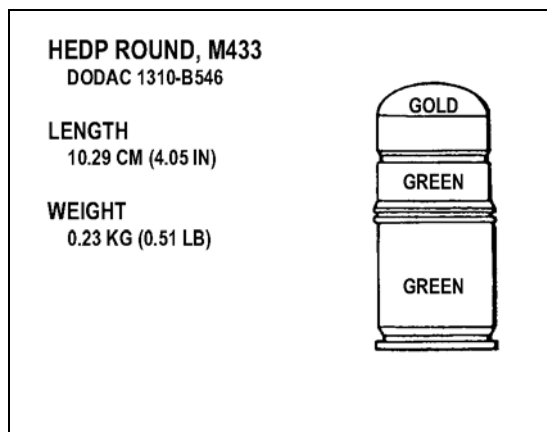

Figure 3-10. HEDP round.
(1) **High-Explosive Dual Purpose Round.** The HEDP round has an olive drab aluminum skirt with a steel cup attached, white markings, and a gold ogive (head of the round) (Figure 3-10). It penetrates at least 5 cm (2 inches) when fired straight at steel armor at 150 meters or less, or, at a point target it arms between 14 and 27 meters, causes casualties within a 130-meter radius, and has a kill radius of 5 meters.